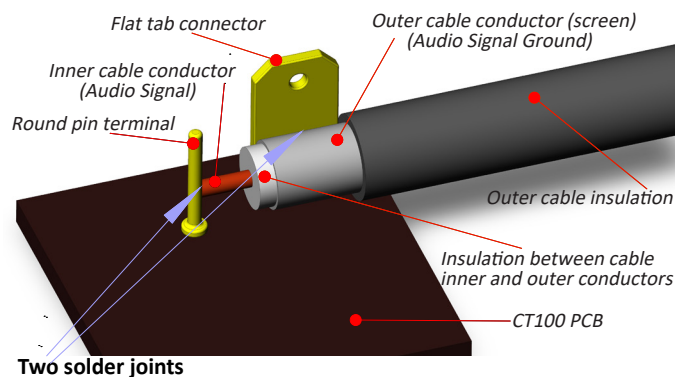

Fig. 3. CT100 audio signal input connections
The input terminals are marked IN 1 and IN 2 on the CT100 PCB, and consist each of a round pin terminal and a flat tab terminal (specified in the CT100 Datasheet). This is where the phono transducer/cartridge is connected. Generally, we recommend connecting the inputs with screened cables. The longer the input cables are, the more important is the screening. If the distance between the input sockets and the CT100 PCB is short, non-screened cables may be used. For non-screened signal cables, we recommend twisting the signal and the signal-ground wires. For each channel, the signal-ground wire (the cable outer conductor/screen/braid/foil for screened cables) must be soldered to the flat tab connector. The signal wire (the cable centre conductor/core for screened cables) must be soldered to the round pin terminal. See fig. 3 below.
4. Connect (solder) the wires from the cartridge to CT100 IN 1 / IN 2. See "Signal Input" and Fig. 3 above.